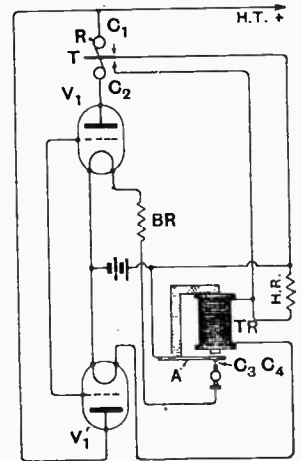

Fig. 5.—Circuit for introducing new valve and extinguishing the defective valve when emission is low or the filament fails.
The next phase of the problem is to add a device which will automatically extinguish V_1 in Fig. 2 when V_1' is brought into action. This is exhibited in Fig. 5. The filament circuit of V_1 contains a ballast resistance, BR, equal in value to that of the telephone relay in the filament circuit of V_1' . There is also a high resistance, HR, of from 2,000 to 3,000 ohms in series with TR to prevent sparking at the relay contacts C_2T . When V_1 is lighted, the filament battery sends a very small current through HR and the relay winding. The armature A is in the release position, so that contacts C_3C_4 are touching. Now there are two defects to be defeated: (1) broken filament, (2) reduced emission. Let the fila-
The arrangement of Fig. 5 is evidently the combination of Figs. 1 and 2, excepting that the positions of BR and TR are reversed and HR has been added. If the energy in the filament circuit were not so limited, HR could be replaced by an anti-sparking resistance across TR. This, however, in our case, would mean a smaller current through TR, and the relay would not function with precision. Moreover, if a resistance were used across TR, the battery voltage would have to be augmented, but by hypothesis this is inadmissible.
There is a third salient manner in which a valve may fail. This occurs when the filament touches the grid. The introduction of a device to cope with this defect is difficult. The valve and its auxiliary are both put out of action when the grid touches the filament, but so long as the filament remains, so also does the emission. Thus the arrangement of Fig. 5 would be abortive in this case. But if the filament should burn out, there would or would not be a happy ending. Provided the filament break was such that